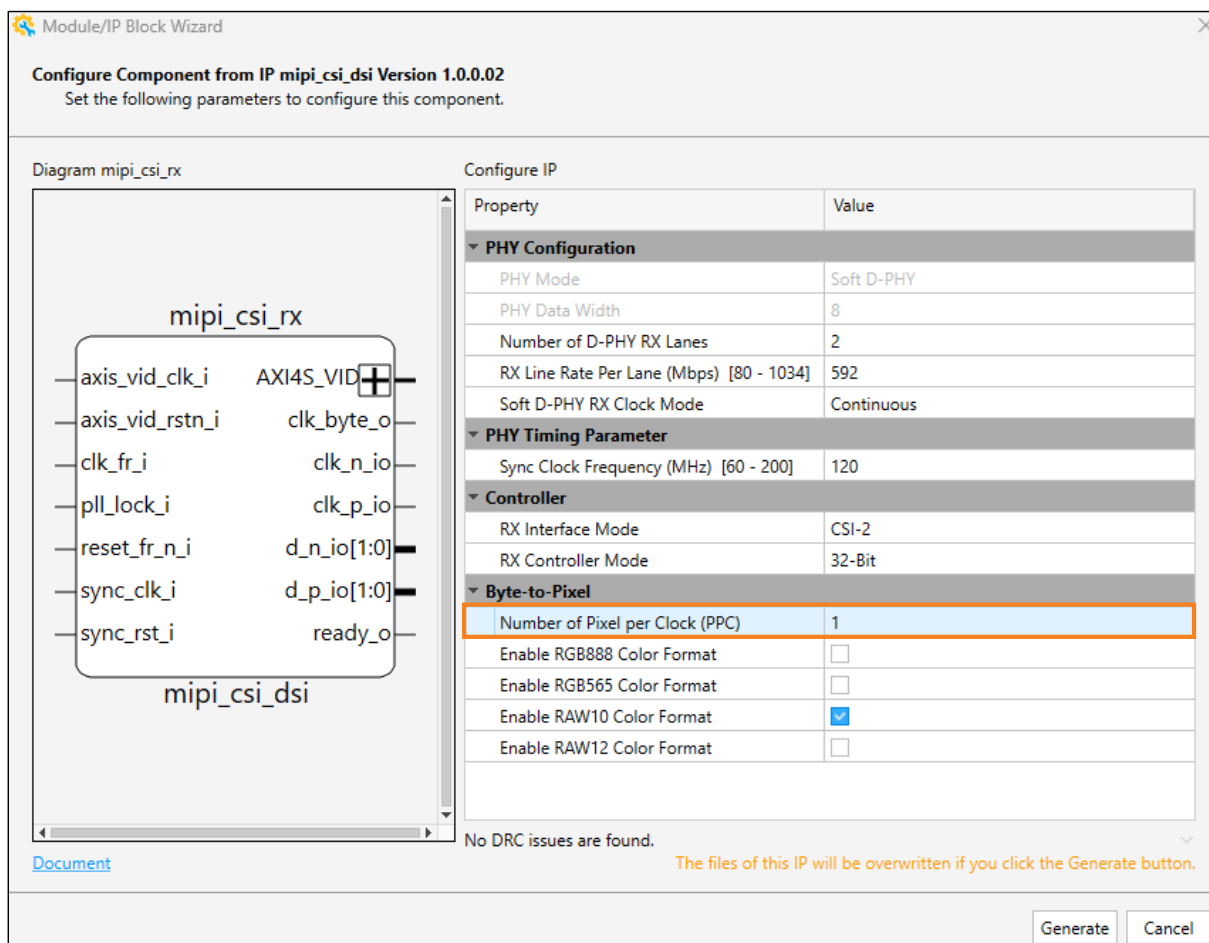

Figure 7.5. MIPI RX IP Configuration
2. Under the **Byte-to-Pixel** setting, set the **Number of Pixel per Clock (PPC)** to 1 (Figure 7.5).